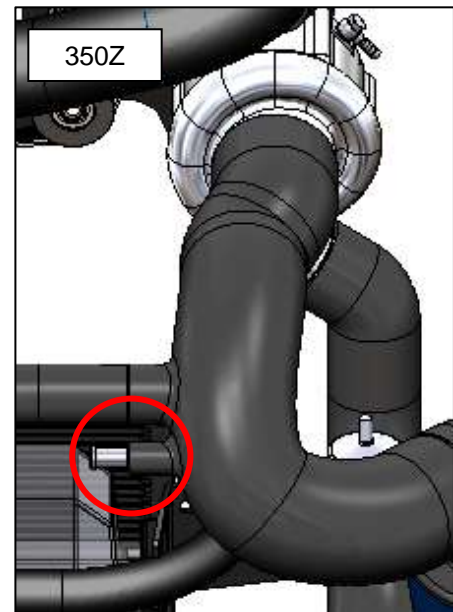

Figure 90
3. Locate the 5/8" PCV Hose (#51) and (2) two Black Hose Clamps (#52). Install one end of the Hose to the smaller Metal Joiner in the Intake Pipe, and secure with a Hose Clamp. *Figure 90.*